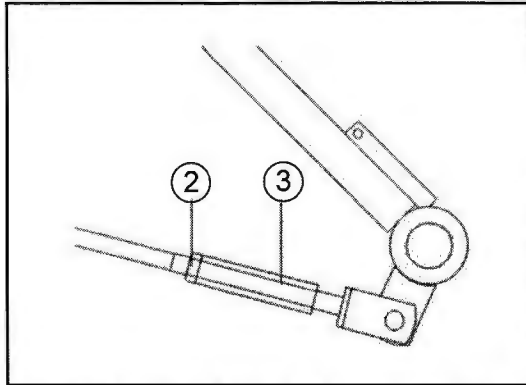

Fig. 27-2 - Clutch Pedal Adjustment Rod
- Release the locking nut (2) and turn the rod (3) counter-clockwise.
- Check that distance (A) is correct before tightening the lock nut. (See Fig. 27-2).